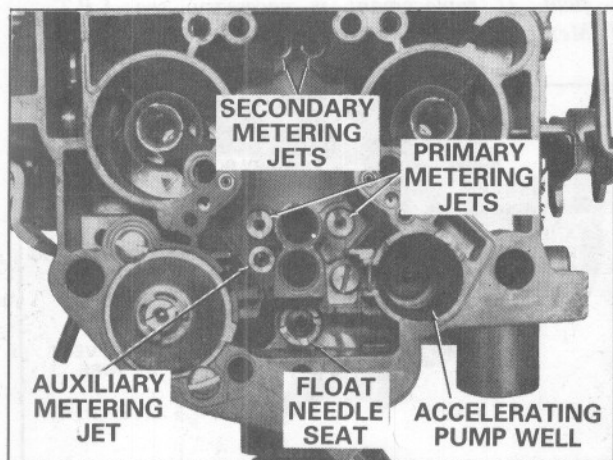

Fig. 6-36 Metering Jets
(NOTE: No attempt should be made to remove the auxiliary (front) power piston metering jet, A.P.T. metering jet, or secondary metering plates, Fig. 6-36. These jets are fixed and, if damaged, float bowl replacement is required.)
6. Install primary main metering jets, Fig. 6-36 (if removed).
7. Carefully install A.P.T. metering rod and cover assembly into float bowl aligning tab on cover assembly with slot in float bowl closest to the fuel inlet nut, Fig. 6-36. Use care installing the A.P.T. metering rod and cover assembly into float bowl to prevent damage to the aneroid or metering rod tip.